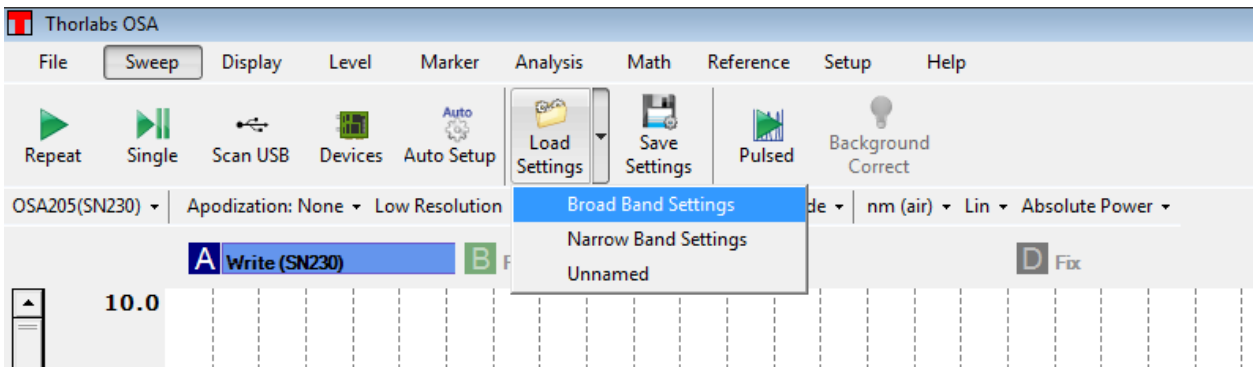

Figure 65 “Load Settings” Button, Allowing Saved Parameter Settings to be Quickly Loaded and Applied to Setups
2. Clicking on the “Load Settings” button will bring up the “Load Acquisition Settings” dialog (see Figure 65). Here you have the possibility to carefully inspect the settings behind a saved name before loading the settings. It is also possible to rename or delete a stored parameter setting from the menu that is displayed when right clicking on any element on the list.